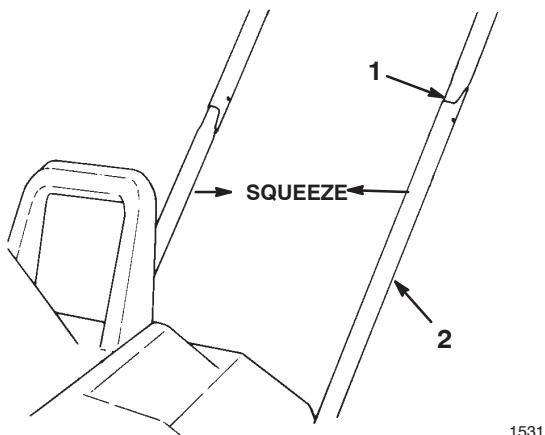

Figure 2
3. Carefully insert the left side of the upper tubing **into** the end of the lower left side tubing (Fig. 2).
4. Squeeze the upper tubes together, and wiggle the upper tubes down until the mounting holes in the upper and lower tubing line up (Fig. 2).